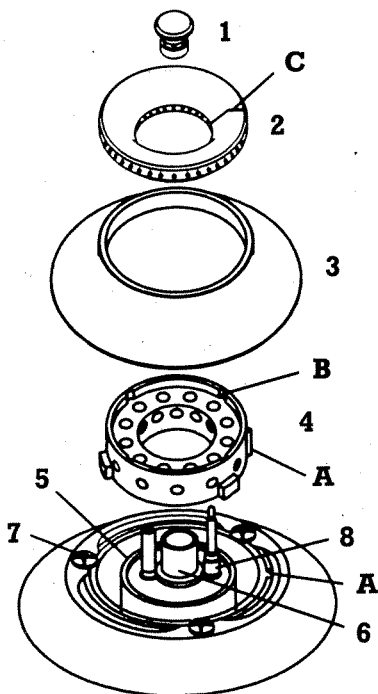

Fig. 9
6. Unscrew the hob securing screws **7** (Fig. 9) and detach the hob.
Note: To guarantee earthing, one hob securing screw **7** (Fig. 9) must be protected against coming loose by fitting a serrated washer.
Fit included burner parts and the pot grid (as shown in Fig. 9).
Detach the pot grid, burner rings, burner head covers and burner heads (see Fig. 9). Undo hob securing screws **7** and carefully detach the hob.
Before assembling the appliance you are advised to check that the burners function properly without fitting the hob. To do this, fit all burner parts as shown in Figure 9. Ignite the burners (to do this, insert the mains plug in the mains socket).